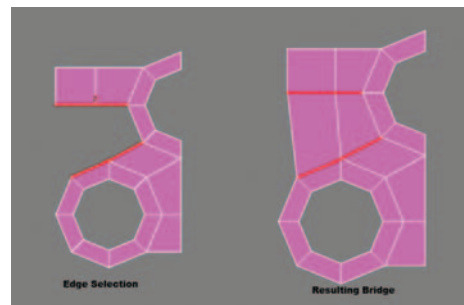

Figure 5.9 Edge selection and result after bridging the selected edges.
10. Using the Bridge function, fill the gaps between the newly cloned edges and the corresponding existing edges (Figure 5.9).